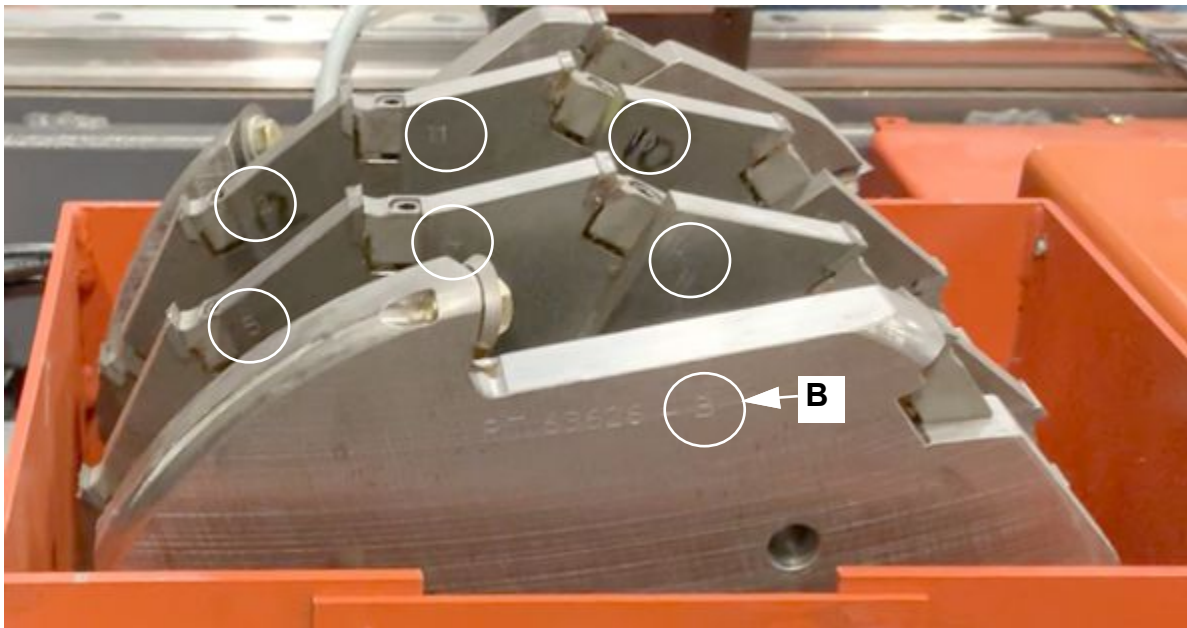

FIG. 4-9
- Slide on the new cutting blades in numeric order and in a spiral pattern. See Fig. 4-9.